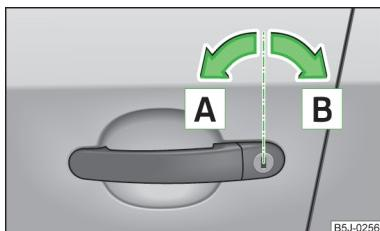

Fig. 31
- Turn the key in the locking cylinder of the driver's door in the direction of travel (unlocking position) **A** » Fig. 31.
- Turn the key in the locking cylinder of the driver's door opposite to the direction of travel (locking position) **B** » Fig. 31 on page 47.